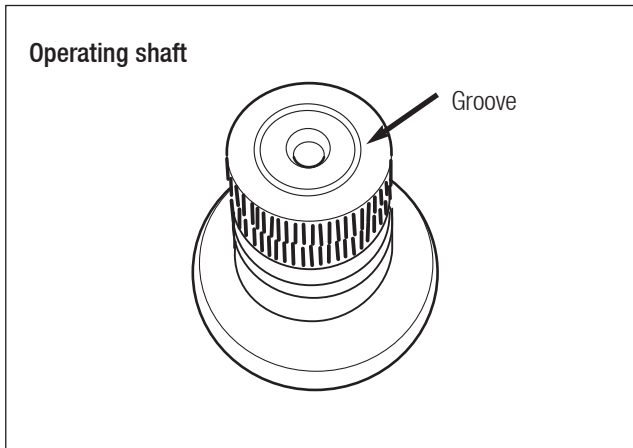

Fig. 11.9
- LH op-shafts are identified by a machined groove in the end face, lever end (Fig 11.9).